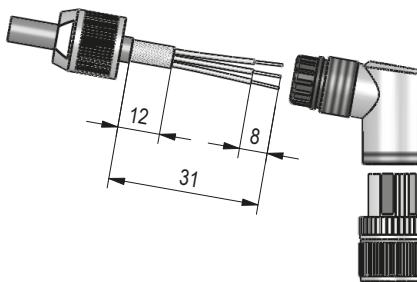

Fig. 3: Right angle mating connector M12
**Mounting (Fig. 3)**
### Changing the angle position (Fig. 3)